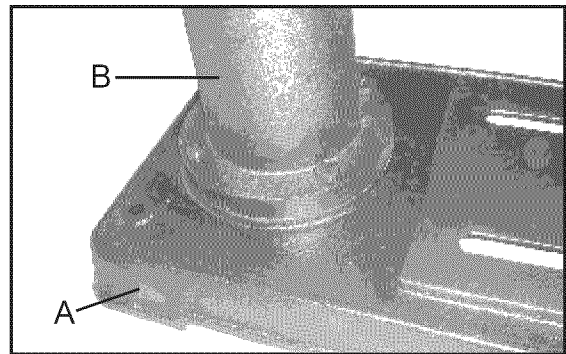

Figure 1
1. Place the base (A-Fig. 1) on a level floor where the machine will be used.
2. Attach the column (B-Fig.1) to the base (A-Fig. 1) using four M10x40 hex bolts. Tighten all four bolts.